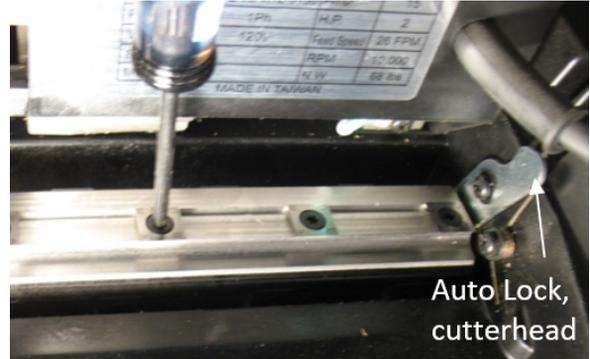

Figure 15: Auto Lock
- WHEN CHANGING KNIFE INSERTS IT MAY BE NECESSARY TO ROTATE THE CUTTERHEAD TO A NEW LOCATION. DEPRESS THE AUTO LOCK (FIG. 15) ON THE RIGHT SIDE WHILE ROTATING CUTTERHEAD WITH A TORX WRENCH IN ONE OF THE SCREW HEADS OR A PIECE OF WOOD.